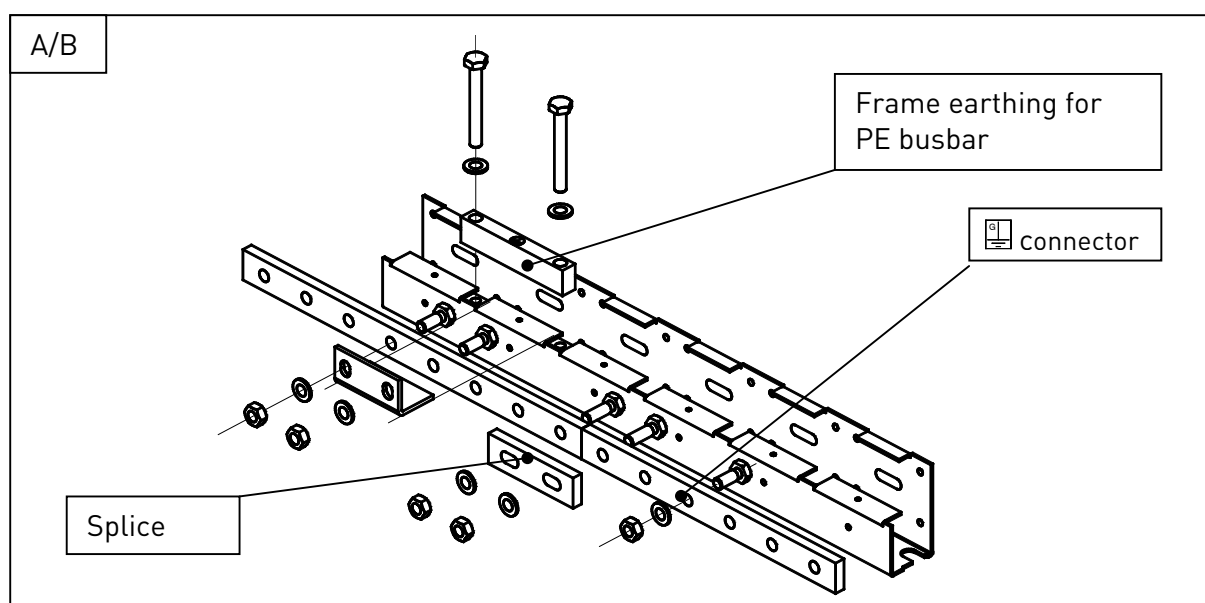

Figure 7
- A) Connect the PE and N busbars if necessary, see Figure 7